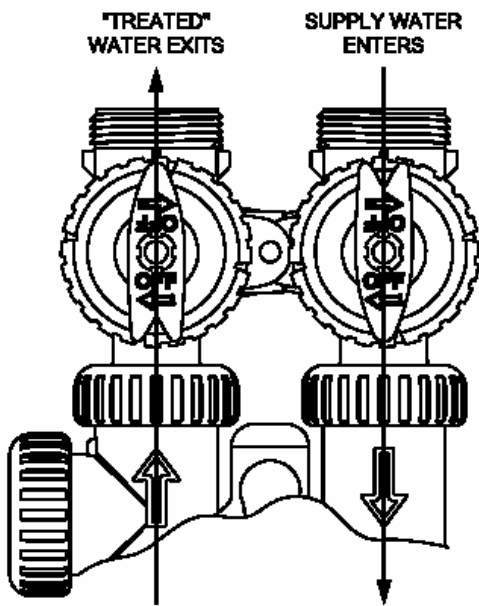

Figure 2
- 2. Bypass Position:** The inlet and outlet handles point to the centre of the bypass, the control valve is isolated from the water pressure contained in the plumbing system. Untreated water is supplied to the plumbing system. (see Figure 2)